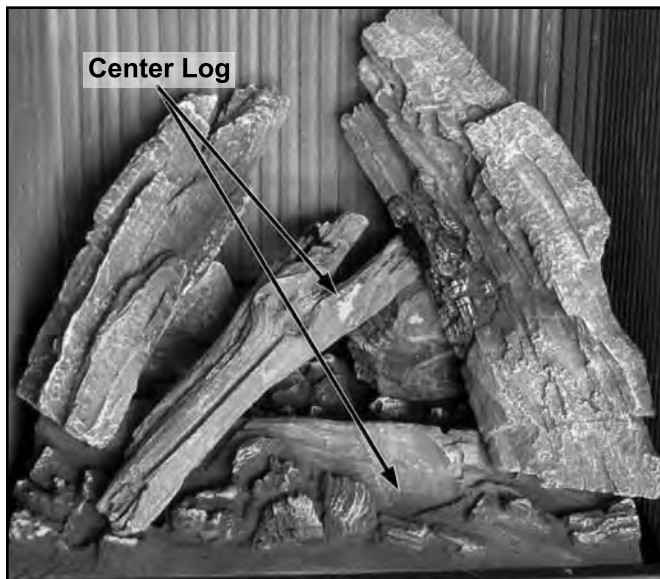

Figure 57: Log Placement of Center Log.
6. Place the bottom of the Center Log in the ledge at the front center of the burner and rest the middle of the log against the top of the "Y" Log as shown in Figure 57 and 58.